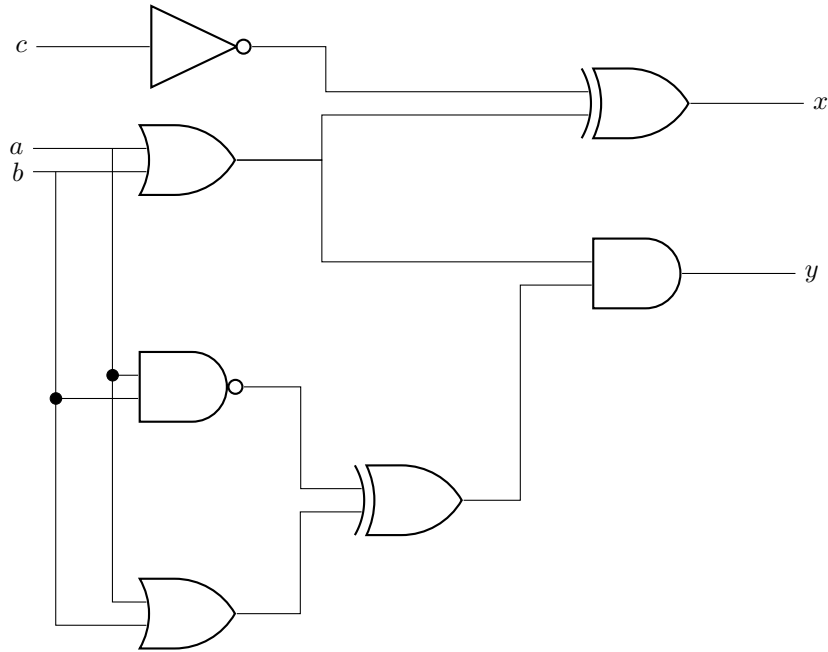

Fig. 3.17: Circuit to be implemented.
1. Implement the circuit shown in Fig. 3.17 on QuestaSim and verify it's truth table.
- (a) Truthtable of the circuit shown in Fig. 3.17.
2. System Verilog code of the given circuit in Fig. 3.17. You can use structural coding (using primitives such as AND, OR, etc., gates) or use assign statements or always_comb block.